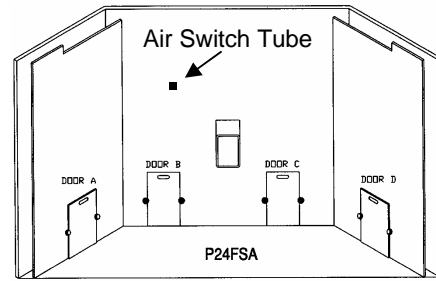

FIGURE 25
- Interior Chambers** – Four ash doors in the firebox in the P24FS, three in the P24I, can be removed for periodic cleaning (refer to figures 25 & 26). These doors allow access to the chamber surrounding the firebox.
- Cleaning** – Over a period of time, ashes or dust may collect on the blades of both the combustion blower and convection blower. Periodically the blowers should be vacuumed clean as these ashes can impede performance. Creosote can also accumulate in the combustion blower. This needs to be brushed clean. The convection blower is accessed by opening the stove's left side panel. The combustion blower can be accessed through door C (refer to figure 25 & 26) and by opening the right side panel. The convection blower is on the left (facing stove), and the combustion blower is on the right.